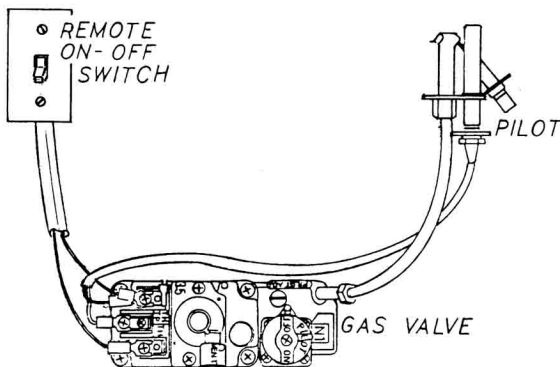

FIG. 11
10. Attach the remote millivolt wall switch wiring to the gas control valve (Fig. 11).